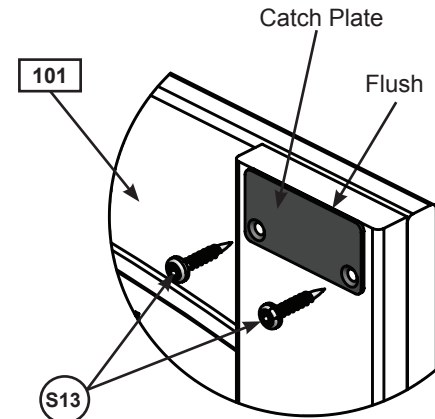

Fig. 10.3
B: On the outside bottom edge of each (101) Door measure 1" up from the bottom and install 1 Door Bumper using 1 (S0) #8 x 7/8" Truss Screw. There should be a measurement of 5/8" from the back of (101) Door to the screw hole. (Fig. 10.3, 10.4 and 10.5)
C: On the inside edge of both (101) Doors, measure 22-1/4" (56.5cm) up from the bottom and install door handles on both sides using 2 (S13) #6 x 5/8" Pan Screws per handle. (Fig. 10.3 and 10.4)